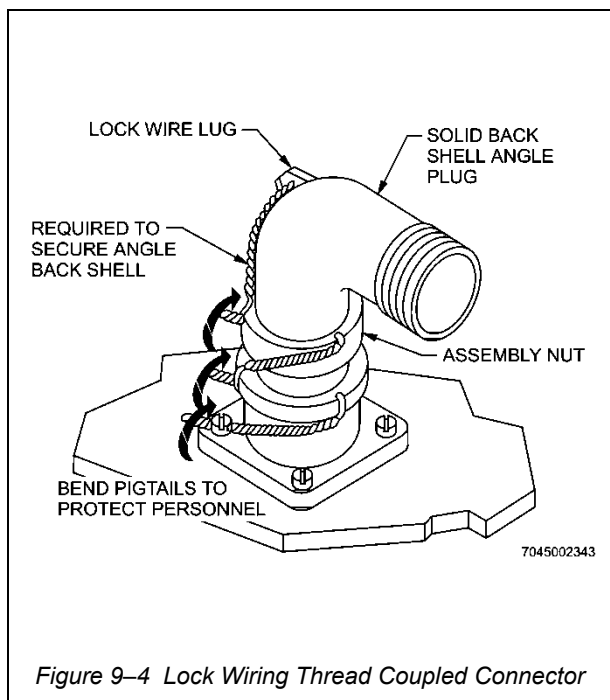
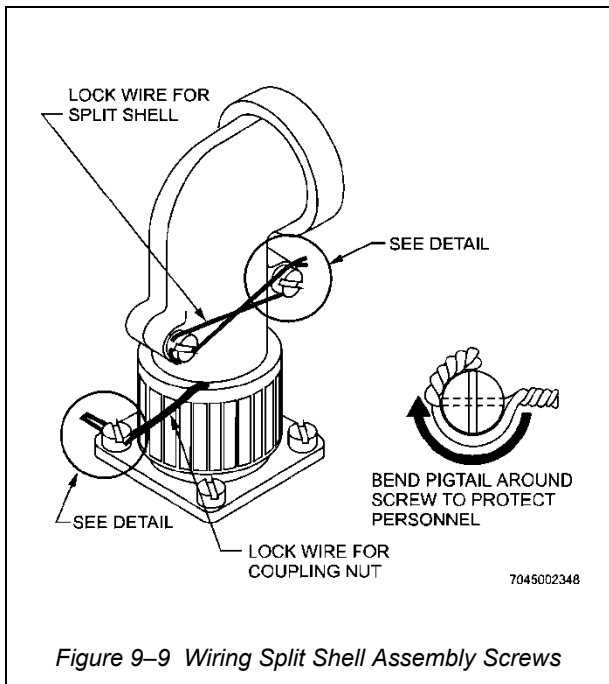

Figure 9-4 Lock Wiring Thread Coupled Connector
Figure 9-9 Wiring Split Shell Assembly Screws
15. Do not lock wire electric or RF connectors and backshells which have a mechanical lock, as lock wiring will act against the locking feature. Backshells on bayonet coupled connectors shall not be safety wired to connector coupling ring. Backshells with safety wire holes shall be safety wired to aircraft structure or to connector mounting flange when required (see Figure 9-9).
16. When specified on engineering drawings or specified in the applicable aircraft maintenance handbook, lock wire connectors as follows (see Figure 9-4):
- f. Safety wire attached cable clamps/coupling ring to connector coupling ring if provisions exist. (See Figure 9-4.) If necessary, safety wire these parts to structure (see Figure 9-8) or to mounting flange (see Figure 9-9). Use same procedure as described in steps a through e.
18. Split shell connectors are held together by two fillister head screws. Secure these screws as follows (see Figure 9-9):
19. Angle plugs with solid black shells are in two parts, held together by four screws through mating flanges. Wire these screws with a single lock wire as shown in Figure 9-2. Solid shell angle plugs made by Bendix and Cannon have back shells held in place by assembly nuts. Install a double twisted lock wire between hole in assembly nut and lug on backshell as shown in Figure 9-4. If necessary to lock wire the plug itself install a second double twisted wire between the assembly nut and the coupling nut or between the coupling nut and one of the receptacle mounting screws, as shown in Figure 9-4.